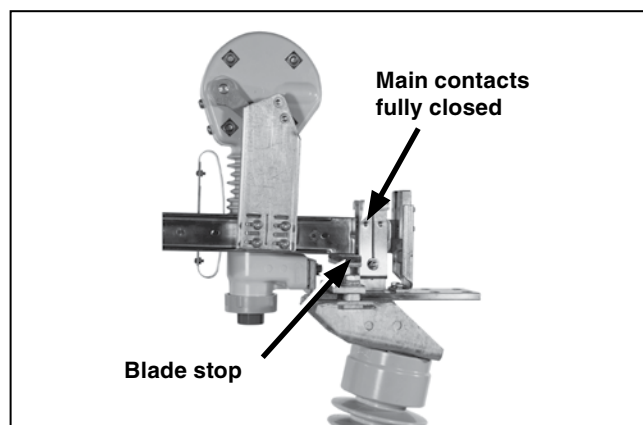

Figure 17. Check that the blade is fully closed.
- With the operating handle as far as it will go in the closing direction, all main contacts of the switch are fully closed with the blades against their blade stops. See Figure 17.